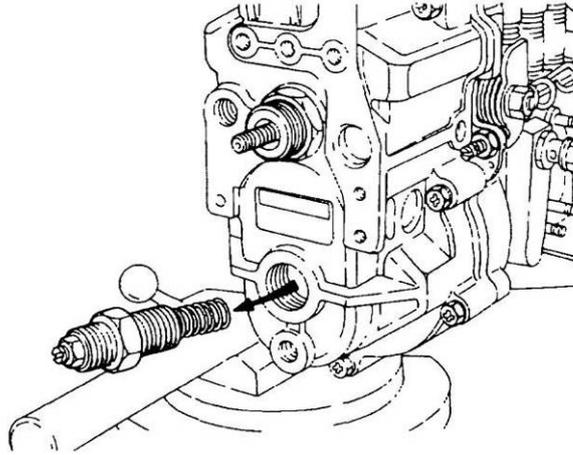

Figure 88 Removal of the Idling Spring Capsule
- k. Remove the cap-nut from the idling spring capsule, then slacken the locknut and remove the idling spring capsule (Figure 88).